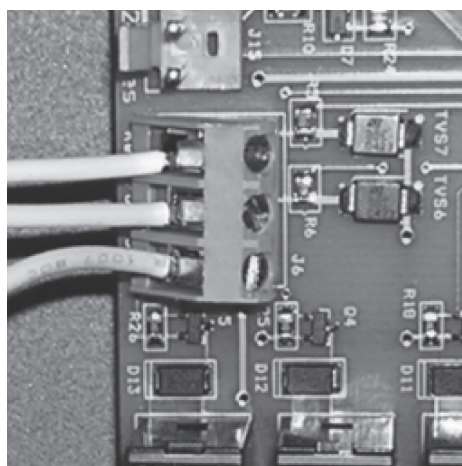

Figure 11a. Remote Pool-Off-Spa Connection (3-Wire Connection)
4. Connect the wiring from the pool/spa control system to the heat pump remote control terminal (see Figure 11a).